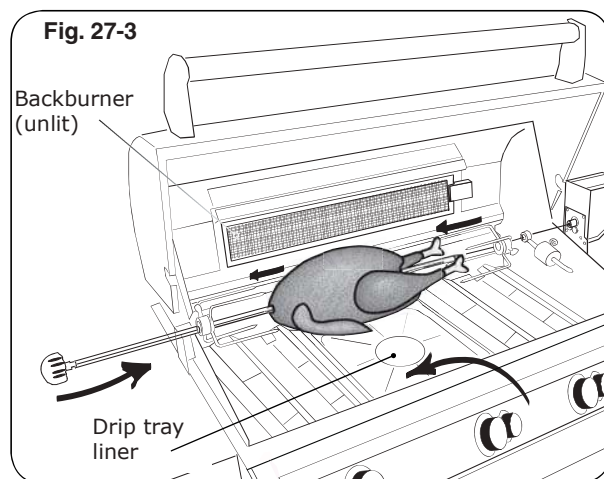

Fig. 27-3
4. Slide the left meat holder onto the rod (and tighten), the meat onto the rod and into the holder, followed by the right meat holder onto the rod and into the meat as shown in Fig. 27-3. Tighten the right meat holder. Be sure the meat is centered and balanced as well as possible.
9. To keep drippings off the burners and simplify cleanup, place Fire Magic® drip tray liners under the meat, if desired (Fig. 27-3).